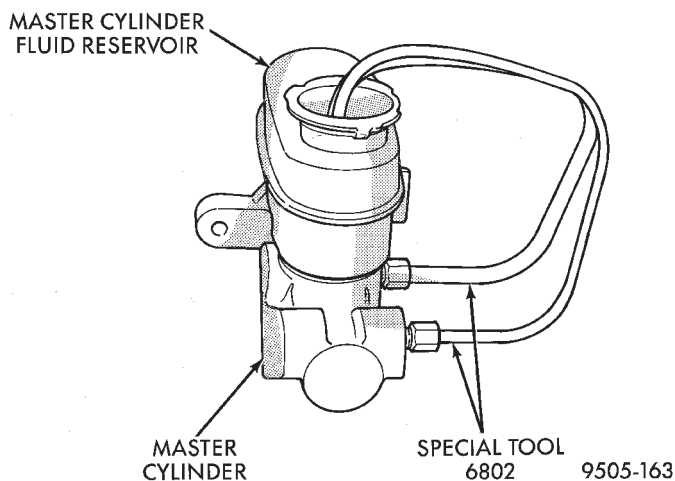
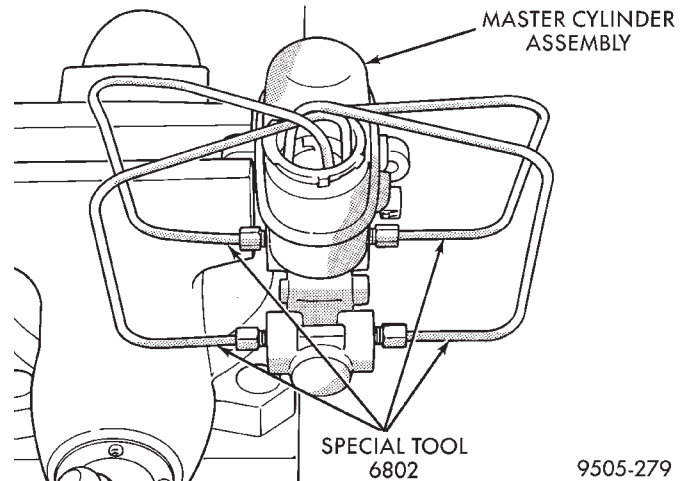

Fig. 33 Bleeding Tubes Attached To Master Cylinder With ABS
Fig. 34 Bleeding Tubes Attached to Master Cylinder With Out ABS
(1) Clamp the master cylinder in a vise. Attach Bleeding Tubes, Special Tool 6802 to the master cylinder outlet ports (Fig. 33) or (Fig. 34). Position bleeding tubes so the outlets of the bleeding tubes will be below the surface of the brake fluid when reservoir is filled to proper level.